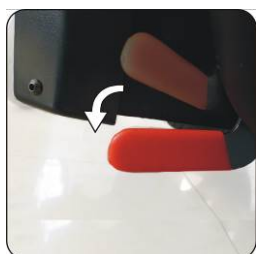

Figure 5-1
5.2.18.1.1 Freewheel Mode: Push the lever of both of motors downwards to the lowest position. The wheelchair will now roll freely. (See Figure 5-1)